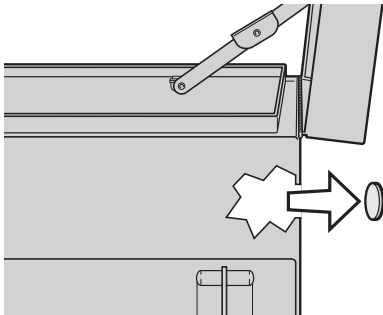
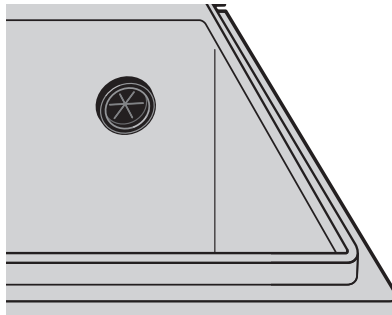
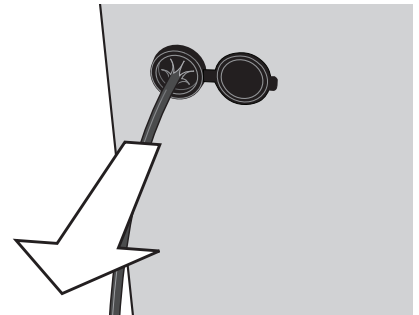

Figure 1, Side View
Figure 2, Inside View
Figure 3, Exterior View
- After removing knock-out, insert Power Pass™ rubber grommet. Do NOT insert extension cord through hole without grommet in place (see figure 3).
2. With a screwdriver and hammer, carefully punch out the "knockout" from the inside of the box so that metal ring will fall outside box (figure 1).
3. Place the rubber Power Pass™ grommet from the outside of the box in the hole and be sure that it is properly seated. BE SURE NO SHARP METAL EDGES ARE EXPOSED (figure 2).
4. When passing cords into the box, be sure to always enter box from the rear. After head of cord is in place, slightly pull back 2-3" to ensure weather resistant "star bursts" are facing toward the outside of box (figure 3). Never push the cord from inside the box so that mating plug points are exposed to the environment
**NOTE:** This lock system is designed to be used with a Master Lock® No. 1, Master Lock No. 5 or American Lock® No. 50, or an equivalent sized lock. If you are using a padlock not listed above, it is your responsibility to make sure the lock mechanism is working correctly. Padlocks must meet ALL requirements listed in Figure 2 or Figure 3.
1. Unbolt the padlock tab using a 1/2" socket or wrench. Place the Latch Rod in "LATCHED" position as shown in Figure 1. Install 5/16" x 3/4" Carriage Bolt into correct hole in Padlock Tab, install Padlock shackle into Padlock tab then secure to Lock Box using Locking Nut. See Figure 2 or 3.